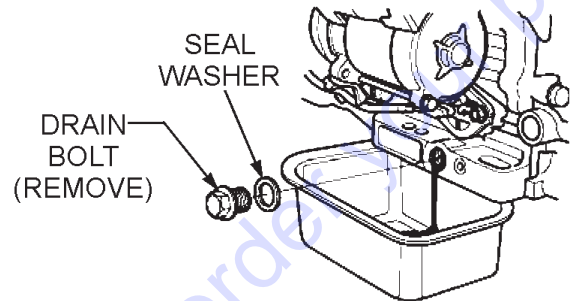

**Figure 31. Cleaning Foam Element**
8. Clean the foam air filter (Figure 31) element in warm soapy water, rinse and allow to dry thoroughly or clean with a nonflammable solvent and allow to dry. **DO NOT** pour any type of oil into the foam element.